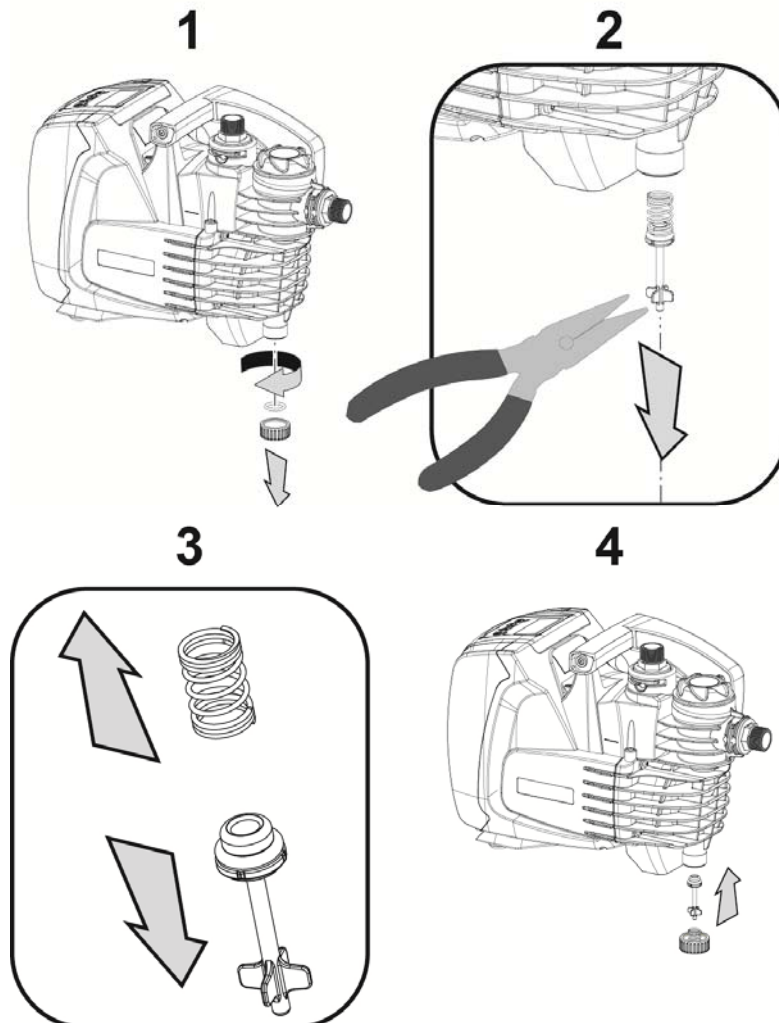

Figure 5
3. remove the drainage cap, taking care to make sure the O-Ring does not fall (Fig. 5) (Fig.5);